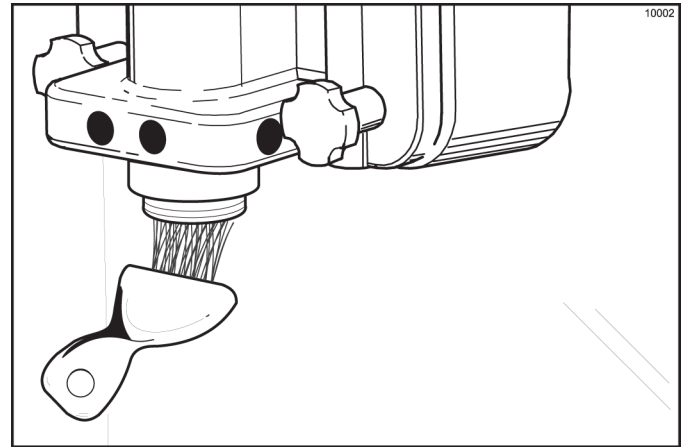

Figure 6-44
12. Return to the freezer with a small amount of cleaning solution. With a pail below the door spout, dip the door-spout brush into the cleaning solution and brush-clean the syrup ports in the freezer door, door spout and bottom of the driven spinner, spinner blade, and syrup line fittings. (See Figure 6-44.)